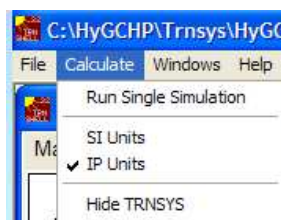

Figure 13. Select either Primary (SI) or Secondary (English) units.
- 7.) Before proceeding with more input, if you'd like to specify a different unit system, select the *Calculate* menu and check either **SI** (metric) or **IP** (English) units, as shown in Figure 13; the input quantities and results will be expressed in these units.